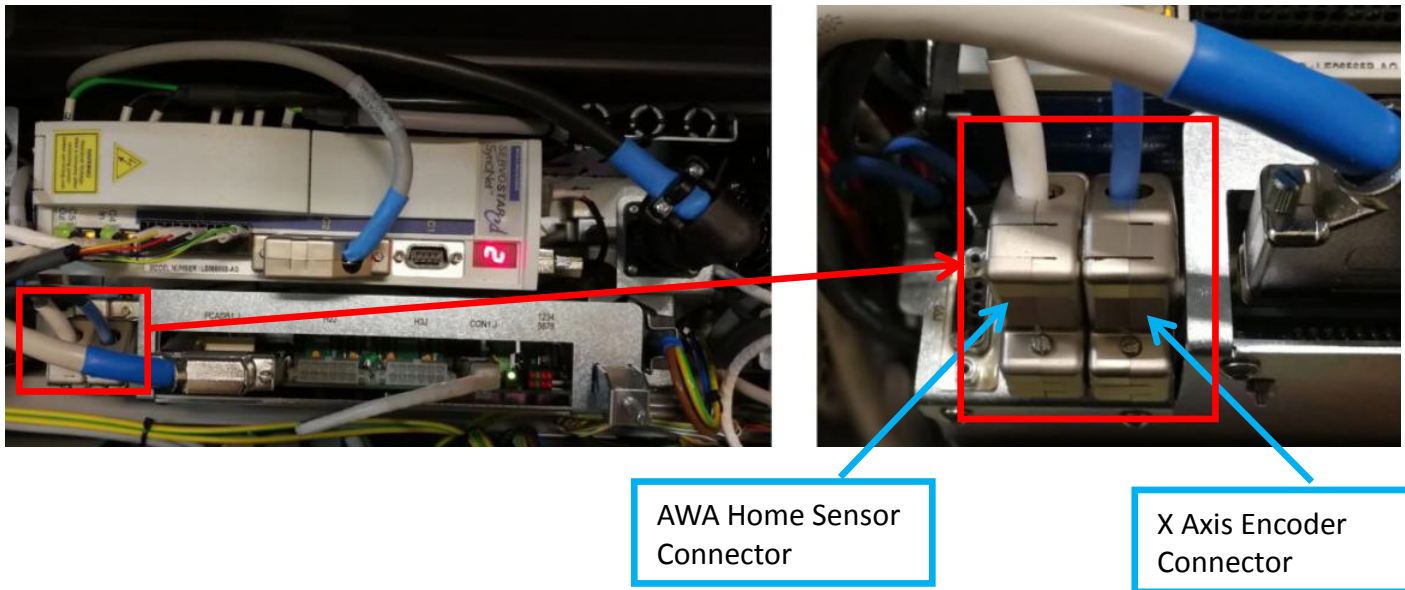

Figure 25
30. Connect X axis encoder & AWA Home Sensor connector at 07J & 06J as Figure 25